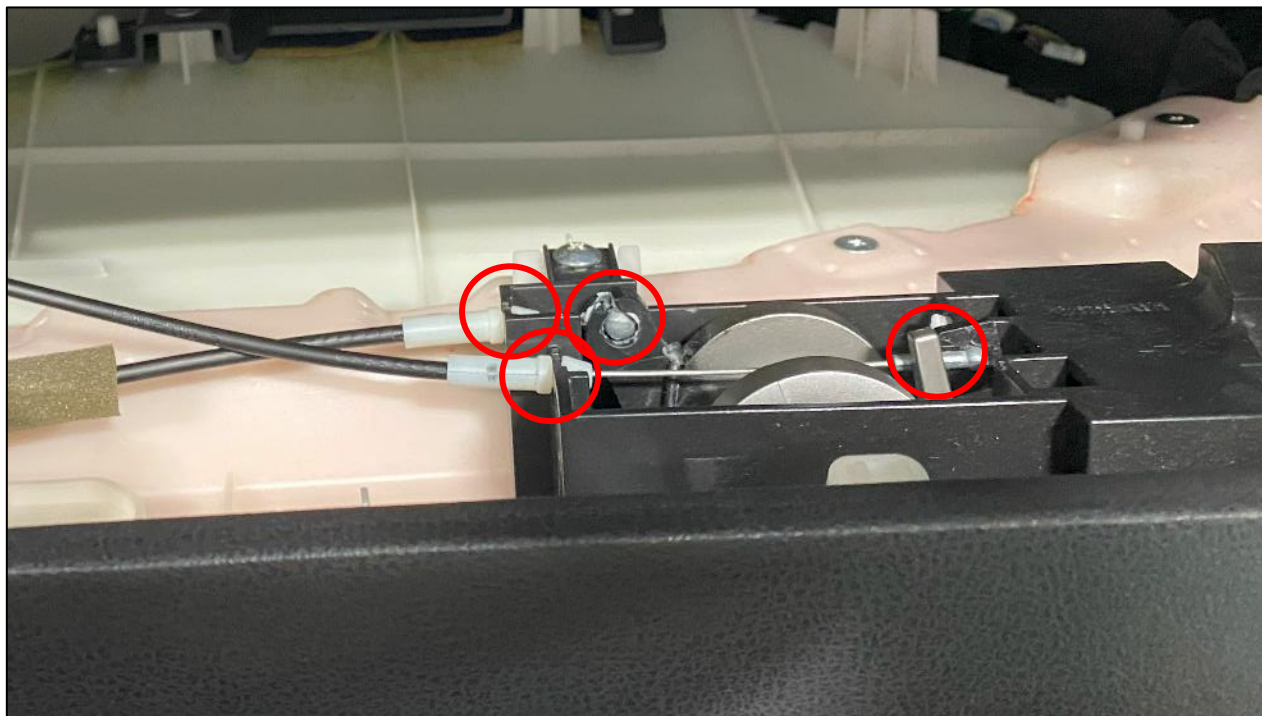

Figure 40
8. Remove the Door Lock and Door Handle Cables from the Door Panel. They will easily pop out. *Figure 40.*